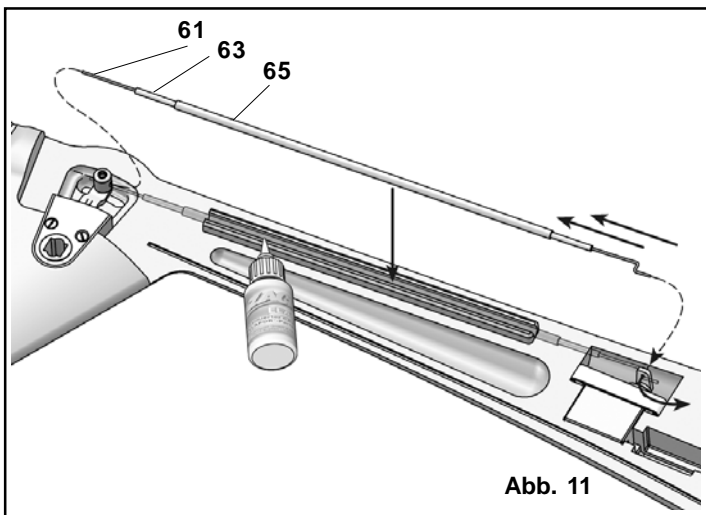

Abb. 11
3.3 Installing the elevator pushrod, Fig. 11 (see also Fig. 22)